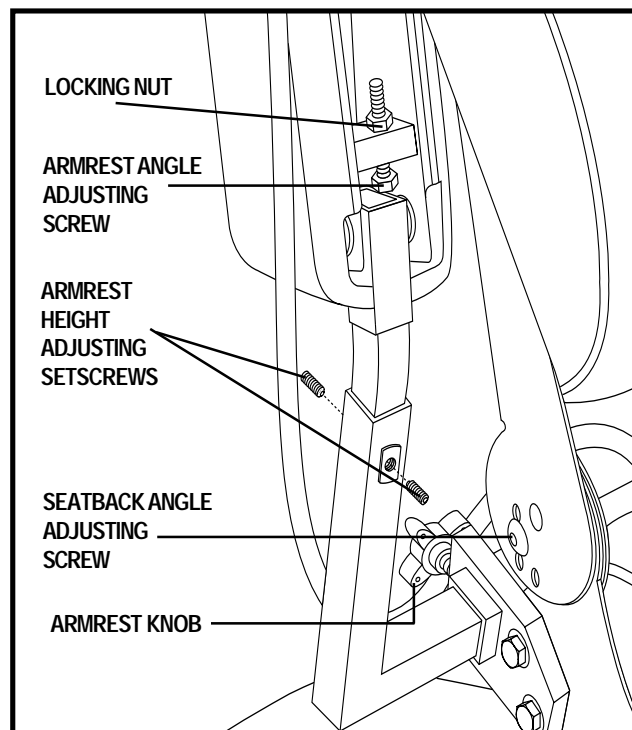

Figure 15. Seatback and Armrest Adjustments
1. Remove the adjusting screws from each seat hinge. See figure 15.
1. Locate the two armrest knobs on each side of the armrest receiver bracket. See figure 15.
1. Loosen the setscrews located on the armrest receiver. See figure 15.
1. Lift the armrest straight up so that it is perpendicular to the floor. See figure 15.